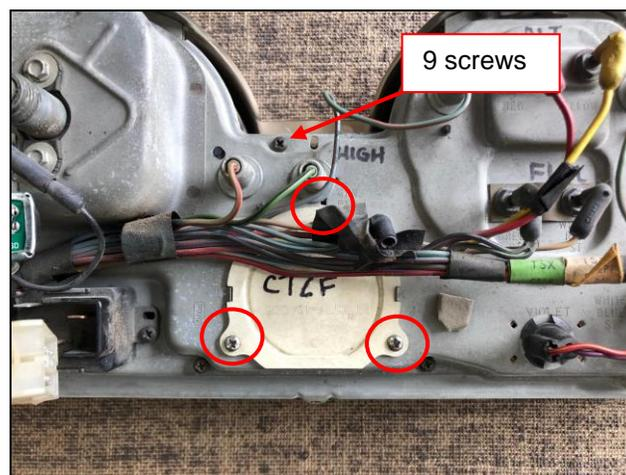

Figure 1
4. Place the cluster face down on a towel or a fender cover to protect your instrument bezel. Remove the (x3) screws that hold the white block off plate or clock assembly to the back of the cluster (**Figure 1**).
- Then, remove the (x9) screws that hold the cluster to the plastic instrument bezel and carefully separate the two. Be careful to not touch the gauge needles and also make sure that you do not loose the cardboard turn signal or high beam “tubes” (**Figures 1 & 2**).